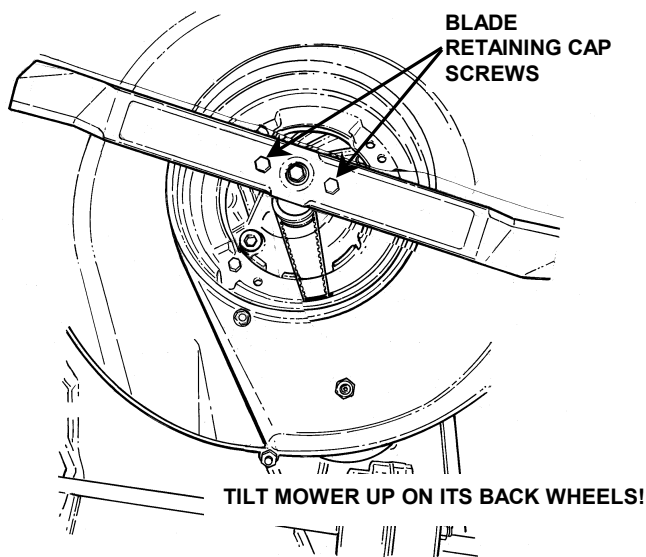

FIGURE 3.2
2. Tilt mower up on its rear wheels for access to the blade cap screw. See Figure 3.2.
3. Check torque of blade retaining cap screw. Recommended torque should be 30 to 40 ft. lbs. See Figure 3.2.